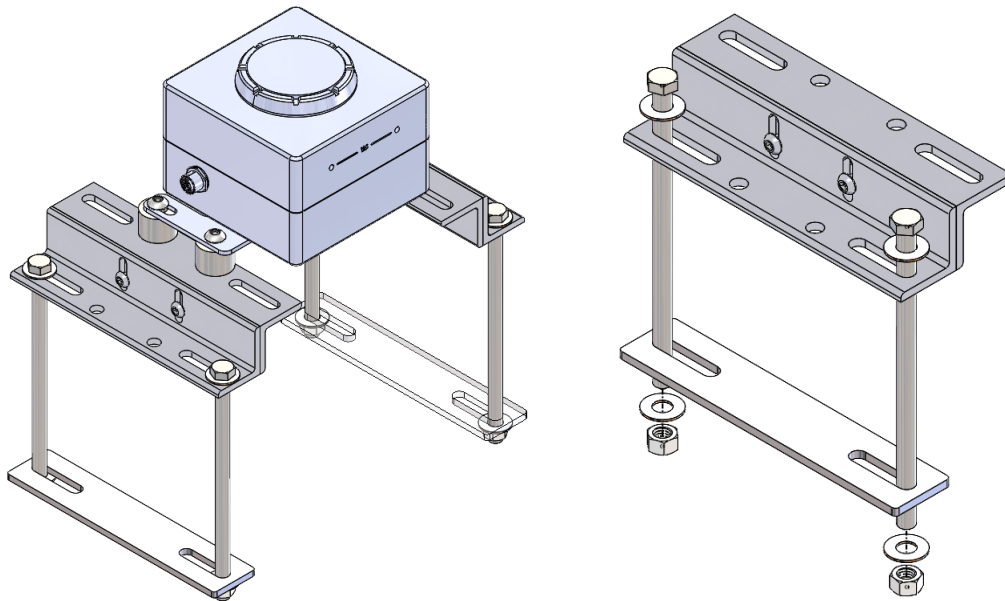

Figure 5: Complete Assembly (Square & Octagonal Torque Tube)
- Square and Octagonal torque tubes use the #20441 mounting assembly, with #17245 bolts, #16091 plates, #12095 washers, and #16101 nuts, following the hardware stack-up shown in *Figure 5*. Tighten using two 9/16" wrenches or sockets.